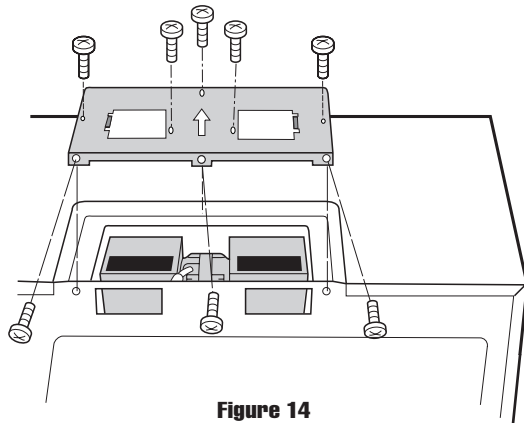

Figure 14
4. Replace the Fan Cover Bracket by sliding it into the slits in the same direction as the arrow on the Fan Cover Bracket. Make sure the fan blades are visible through the top openings in the oven before proceeding. See Figure 14 on page 6.
5. Attach the Fan Cover Bracket to unit with the 3 screws from back edge and 5 screws from the top of the Fan Cover Bracket, which were removed at Step 1 above. See Figure 14 on page 6. The Hood Fan Unit is now rotated for vertical exhaust operation.